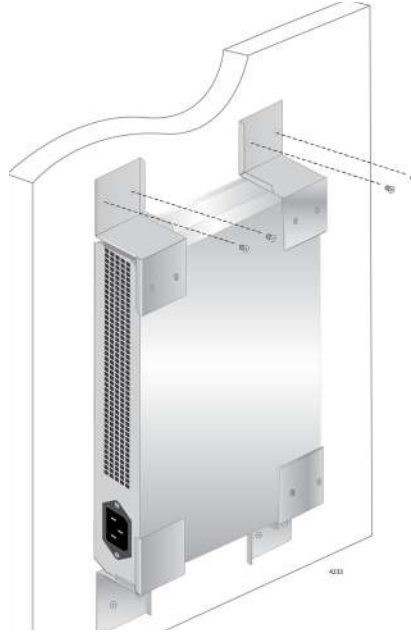

Figure 62. Driving the Screws through the Holes
14. Install the screws through the bracket holes to attach them to the wall. See Figure 62 on page 107.